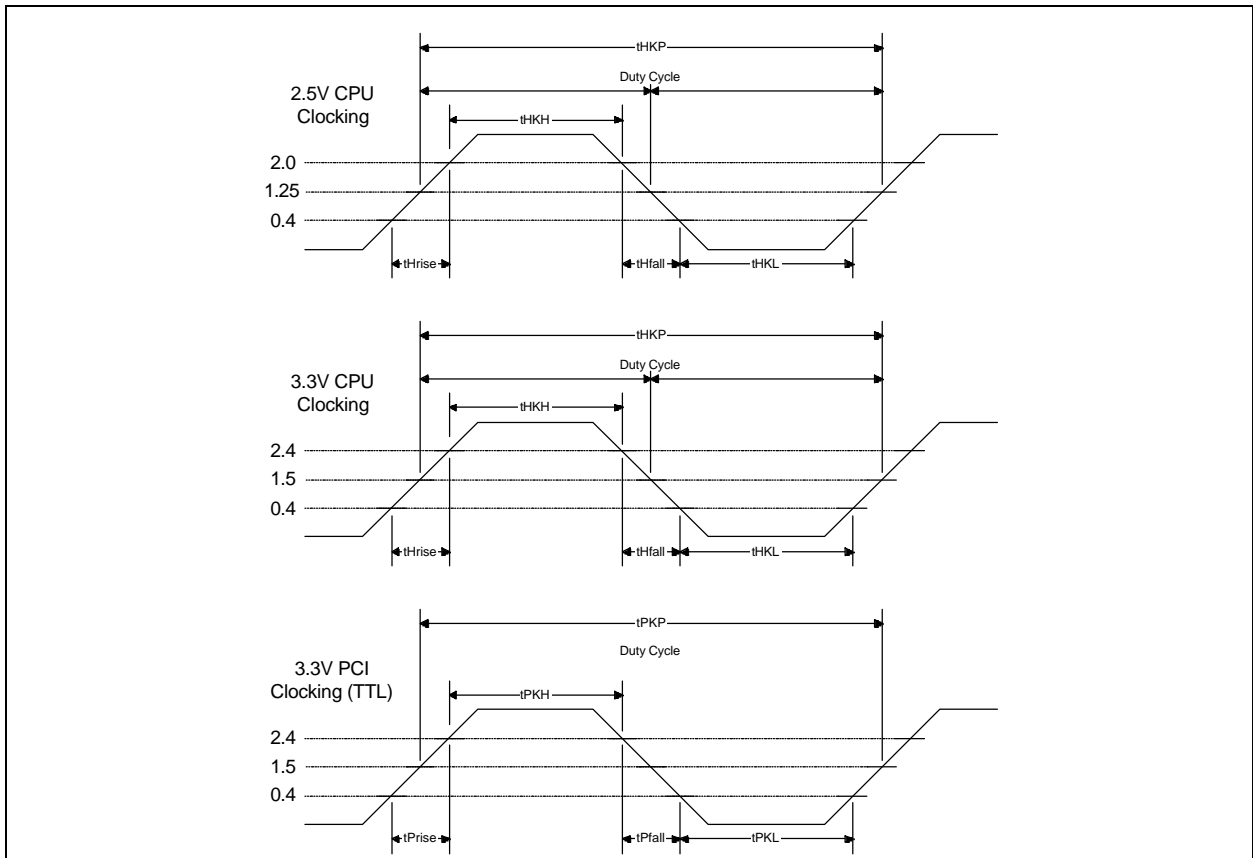

Figure 4-4. Clock Waveform
4. tHKH is measured at 2.0V for 2.5V CPUs as shown in Figure 4-4.
5. tHKL is measured at 0.4V as shown in Figure 4-4.
10. tHKH is measured at 2.4V for 3.3V CPUs as shown in Figure 4-4.